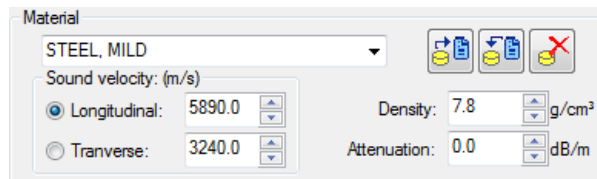

Figure 10-4 Material parameters
1. Enter the material parameters with an appropriate material name (see Figure 10-4 on page 136).